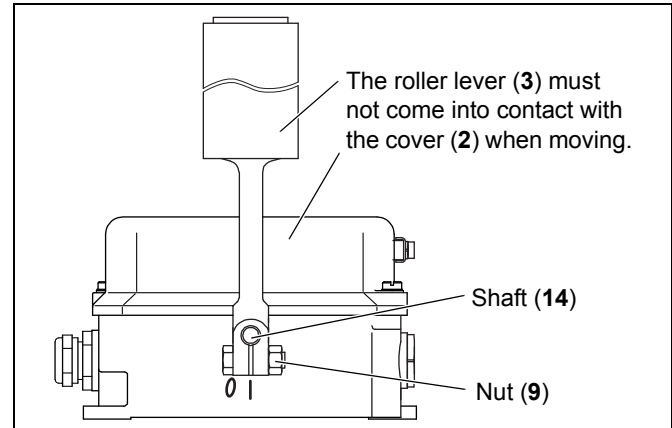

Fig. 7-1: Replacing the roller lever
2. Loosen the nuts (9) using a 16 mm open-end wrench and remove the roller lever (3) from the shaft (14) (see fig. 7-1).
3. Fit the new roller lever (3) onto the shaft (14).